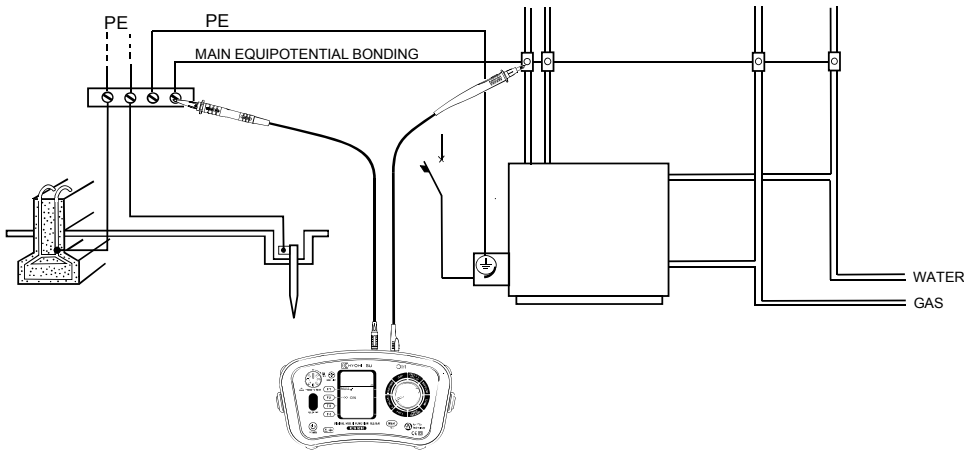

Fig.14 Example of continuity test for main equipotential bonding.
- 6 Connect the test leads to the circuit whose resistance is required (see Fig.14 for a typical connection arrangement), having first made sure **that the circuit is not live**. Note that “Live Circuit” warning will be displayed on the LCD if the circuit is live - but check first anyway!